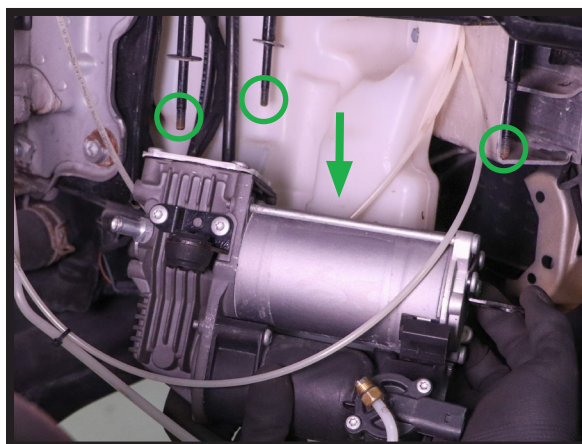

FIGURE 12
9. REMOVE THE COMPRESSOR FROM THE VEHICLE. (FIGURE 12)